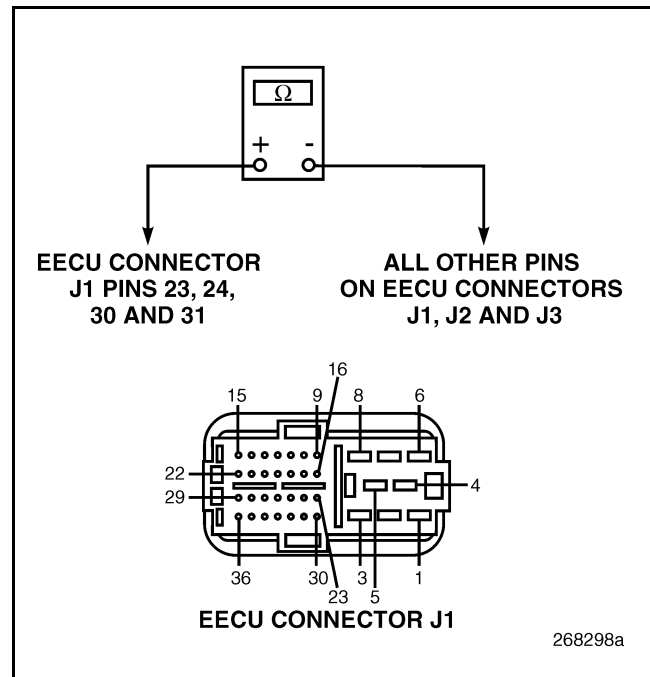

Figure 654
5. Check for continuity between EECU connector J1 pins 23, 24 30 and 31 versus all other pins on EECU connectors J1, J2 and J3 (see Figure 654).